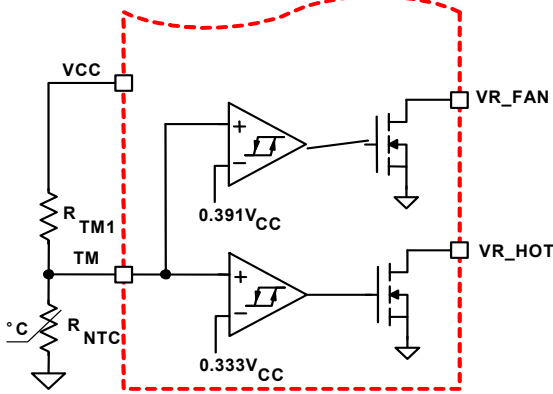
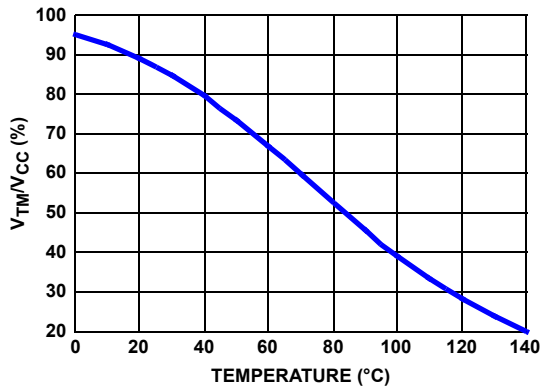

FIGURE 17. BLOCK DIAGRAM OF THERMAL MONITORING FUNCTION
FIGURE 18. THE RATIO OF TM VOLTAGE TO NTC TEMPERATURE WITH RECOMMENDED PARTS
The diagram of thermal monitoring function block is shown in Figure 17. One NTC resistor should be placed close to the power stage of the voltage regulator to sense the operational temperature, and one pull-up resistor is needed to form the voltage divider for the TM pin. As the temperature of the power stage increases, the resistance of the NTC will reduce, resulting in the reduced voltage at the TM pin. Figure 18 shows the TM voltage over the temperature for a typical design with a recommended $6.8\text{k}\Omega$ NTC (P/N: NTHS0805N02N6801 from Vishay) and $1\text{k}\Omega$ resistor RTM1. We recommend using those resistors for the accurate temperature compensation.
Based on VCC voltage, the ISL6336D converts the TM pin voltage to a 6-bit TM digital signal for temperature compensation. With the nonlinear A/D converter of ISL6336D, the TM digital signal is linearly proportional to the NTC temperature. For accurate temperature compensation, the ratio of the TM voltage to the NTC temperature of the practical design should be similar to that in Figure 18.
1. Properly choose the voltage divider for the TM pin to match the TM voltage vs temperature curve with the recommended curve in Figure 18.